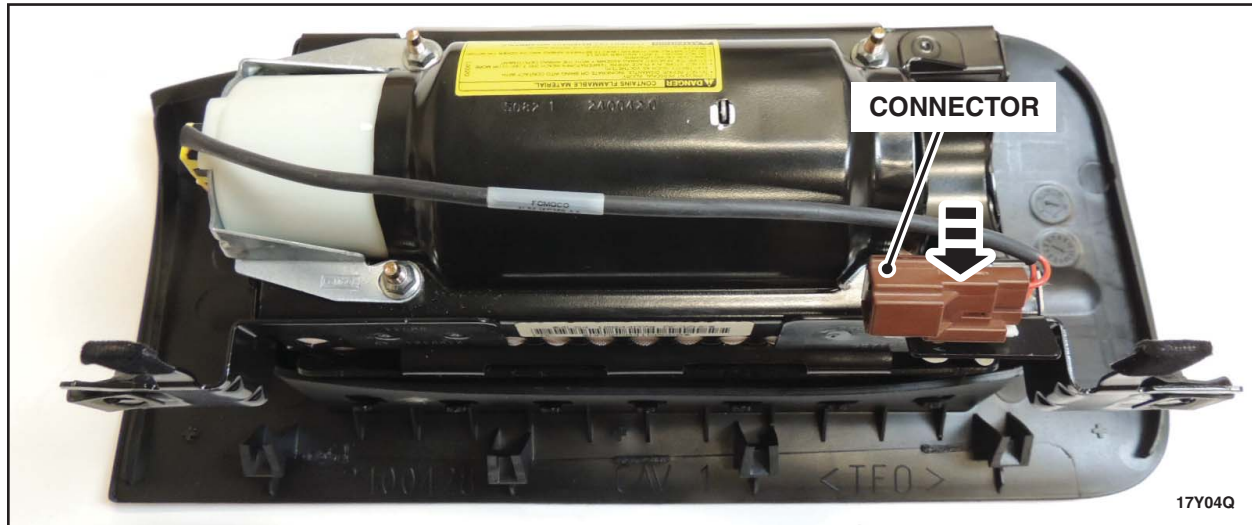

FIGURE 16
14. Install inflator harness connector to the air bag assembly bracket. See Figure 16.